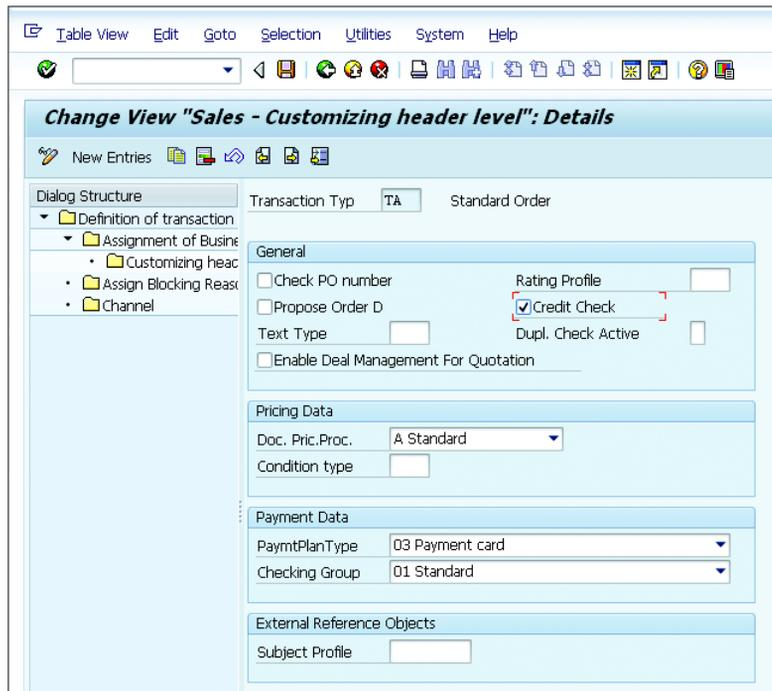

Figure 6.50 Activating the Credit Check in the Transaction Type
3. Activate the credit check in the transaction by navigating to CUSTOMER RELATIONSHIP MANAGEMENT • BASIC FUNCTIONS • CREDIT MANAGEMENT • GENERAL SETTINGS • ACTIVATE CREDIT CHECK IN TRANSACTION (see Figure 6.50).